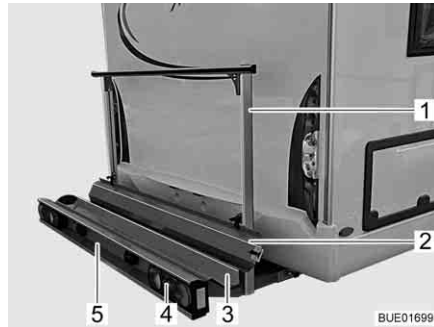
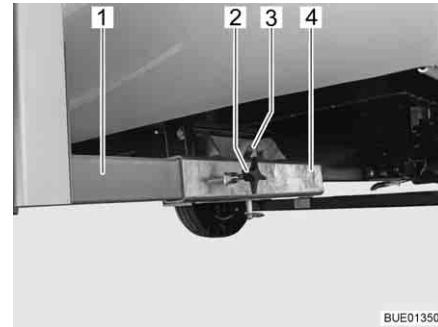

Fig. 4 Load rack
Fig. 5 Attachment to vehicle
The load rack (Fig. 4) permits transport of a motorcycle or a motor scooter weighing up to 130 kg.
- Rack trough (Fig. 4,3) and retaining clip (Fig. 4,1) with attachment to vehicle (Fig. 5)
- Rear lights (Fig. 4,4)
- Vehicle licence plate light (Fig. 4,5)
- Ramp (Fig. 4,2)
The two side members (Fig. 5,1) of the load rack are fixed to the floor of the vehicle by means of tommy screws (Fig. 5,2) on the square drives (Fig. 5,4). The load rack is secured by a bolt (Fig. 5,3) with locking ring.